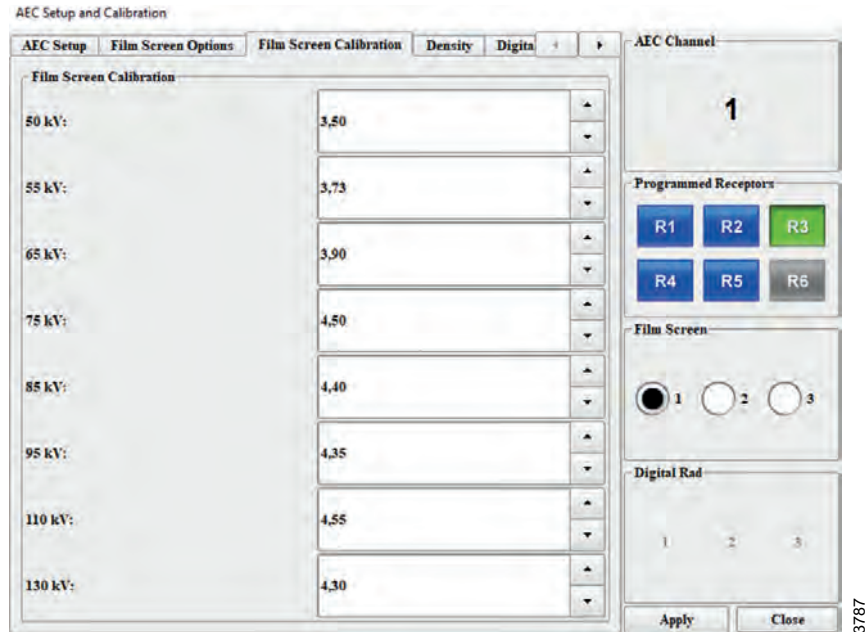

Fig. 5-188 AEC setup and calibration
- Set the value in the 75 KV dialog box to 4,50, see Fig. 5-188 *AEC setup and calibration*(see figure 5 below) for the relevant AEC channel and filmscreen
1. Repeat the *Determination of AEC cut off EI* procedure, with the KV levels (except 75 KV) shown in Fig. 5-188 AEC setup and calibration, using the phantom sizes in the table: